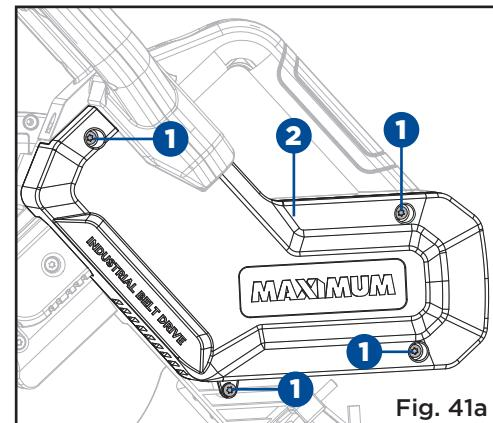

Fig. 41a
(Fig. 41a-41b)**
- Loosen and remove four belt cover screws (1) with flower wrench T25 (not supplied).
- Remove the belt cover (2) (Fig. 41a).